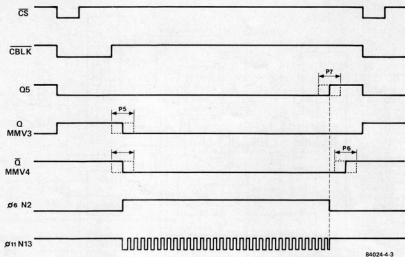

Figure 3. This timing diagram should help to clarify the operation of the circuitry responsible for the horizontal image window.
The operation of this section of the circuit is clarified by referring to the timing diagram of figure 3. The waveforms shown only apply when both FG and EODF signals are '0', which means during the vertical image window. The CS signal travels via inverter N5 to the reset input of IC4. After a reset Q5 (EODL) becomes '0'. At the same time MMV3 is triggered so that N13 is still disabled via N2 even though EODL, EODF, and FG are all zero. The falling edge of MMV3 triggers MMV4 and the pulse provided by this latter monostable (LG) defines the maximum width of the image window. The horizontal position can now be set by adjusting the left side of the image with P5 and then the position of the right side can be fixed with P6 depending on the setting of P7. The image can thus be centred by means of this P5/P6 combination. If the frequency of N13 set with P7 is so high that more than 32 periods occur within the LG pulse the position of the right side of the image will be defined by Q5. This is referred to again in the section on calibration. The oscillator signal of N13 is fed to the clock input of IC4. The combination of
signals shown in figure 3 ensures that the oscillator is always started at the same moment during each of the 256 lines. During each line the Q0...Q4 outputs of the counter select each of the multiplexer inputs in chronological order. The falling edge of the oscillator signal clocks IC4. The next rising edge is used to load FF1 with the data supplied by IC3. This is done to give the comparator sufficient time to react to the input signal. Furthermore, the display width of each channel is exactly one clock cycle, with the exception of channels 1 and 31 which are never totally visible because of the starting and stopping of the oscillator. This is also the reason why channel 0 is tied to ground. Channel 31 could possibly be used to specify, for example, a certain reference level.